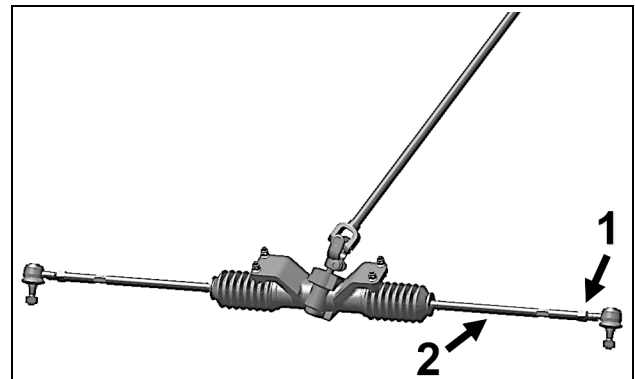

Figure 21
To adjust the SxS's steering system, first loosen coupling rod nut (1), then screw or unscrew the coupling rod (2) an equal number of revolutions on both sides of the vehicle. See Figure 21.